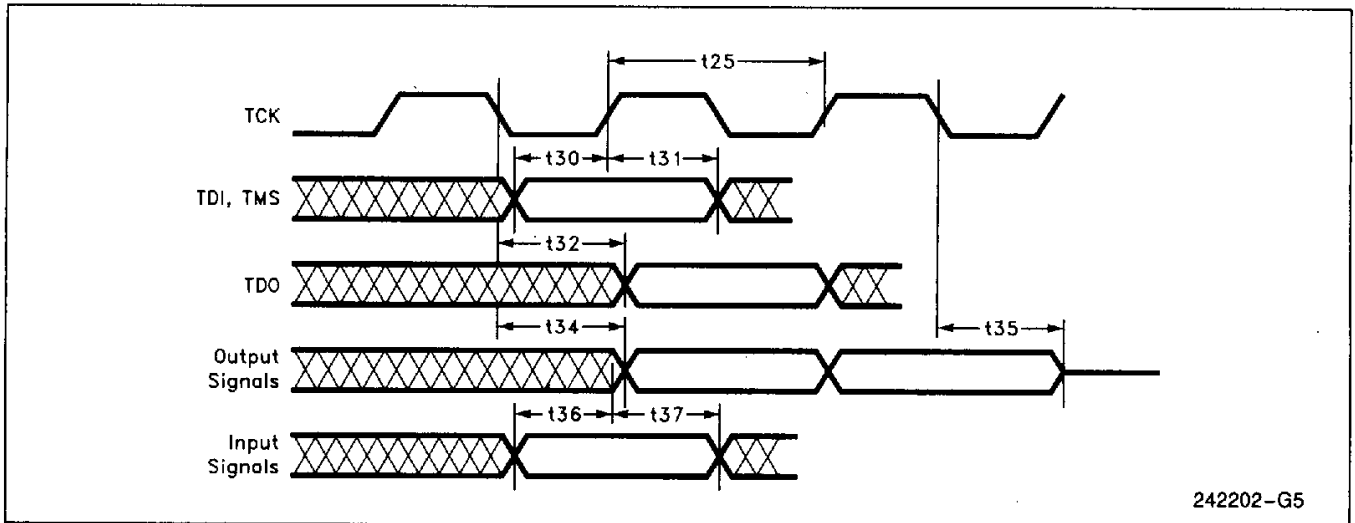

Figure 17-8. Test Signal Timing Diagram
- Refer to Figure 17-8 for signal waveforms.